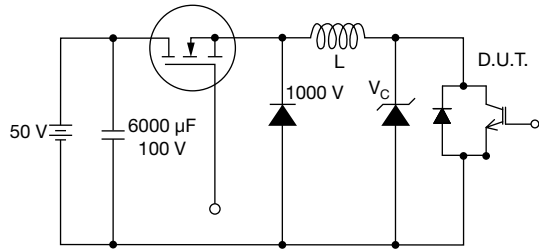

Fig. 19 - Clamped Inductive Load Test Circuit
(2) $V_{CC} = 80\%$ (V_{GES}), $V_{GE} = 20\text{ V}$, $L = 10\text{ }\mu\text{H}$, $R_G = 50\text{ }\Omega$ (see fig.19)